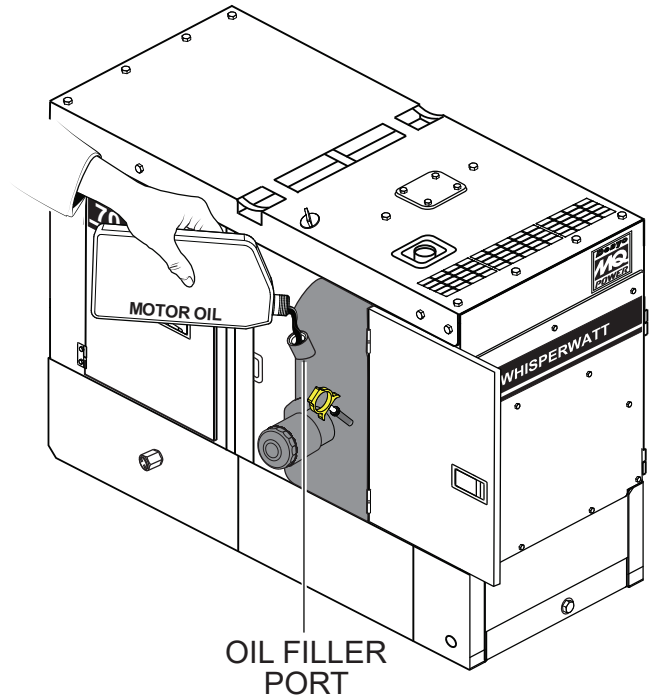

Figure 32. Engine Oil Filler Port
5. If the engine oil level is low (Figure 31C), remove the cap from the oil filler port (Figure 32) and fill to a safe operating level (max) as indicated by the dipstick (Figure 31A). Fill with recommended type oil as listed in Table 11. Maximum oil capacity is 15.8 quarts (15 liters).